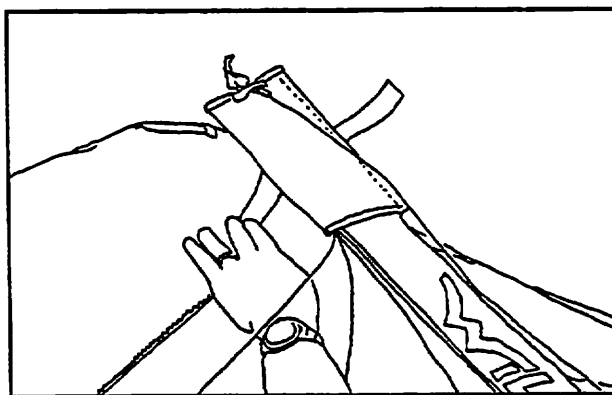

Figure 84
8) Lay the kingpost down on top of the sail along the keel, and attach the velcro on the kingpost top protector to the nose cone velcro on the sail to hold the kingpost in position. (Figure 84)